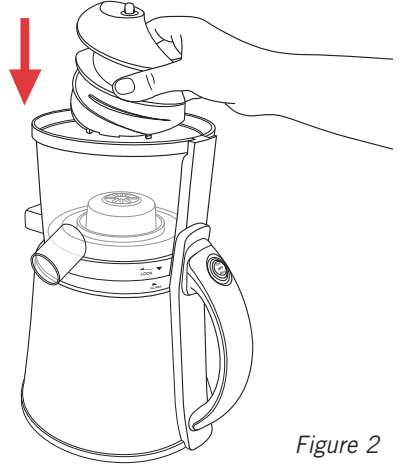

Figure 2
2. Place the juicing screw into the centre of the juicing bowl and push down until firmly in place – figure 2.